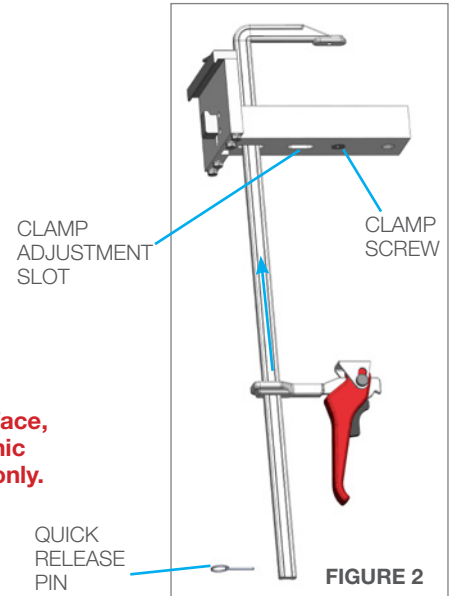

FIGURE 2
2. If more stand-off is needed from the face of the bundle, it is possible to adjust the Clamp by depressing the tang on the bottom of the vertical bar, sliding off the yellow Handle Assembly, unscrewing the Clamp from the Channel, and moving the Clamp to the open slot. Relocate the screw to the next position, tighten, and attach the red handle assembly. **(Figure 2)**